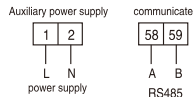

Figure 2
3.3 Wiring (see Figure 1 and Figure 2)